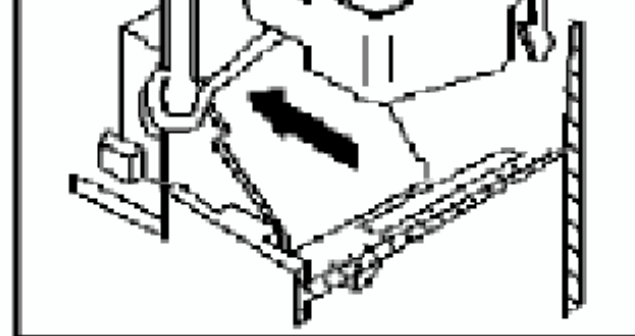

FIG. 1
D) BASE. (SEE FIG.1). 4. PUSH ADAPTER FIRMLY INTO BASE USING THE BUILT IN TAB, UNTIL THE BARB HAS
RTAFUSIBLE DEL LADO OPUESTO DE LAS ZAPATAS DE CARGA (VEASE FIG. 1). 3. GIRE EL ADAPTADOR P
D) SUR LA BASE MOULEE (VOIR FIG. 1). 4. POUSSER FERMEMENT L'ADAPTATEUR DANS LA BASE EN UTILI